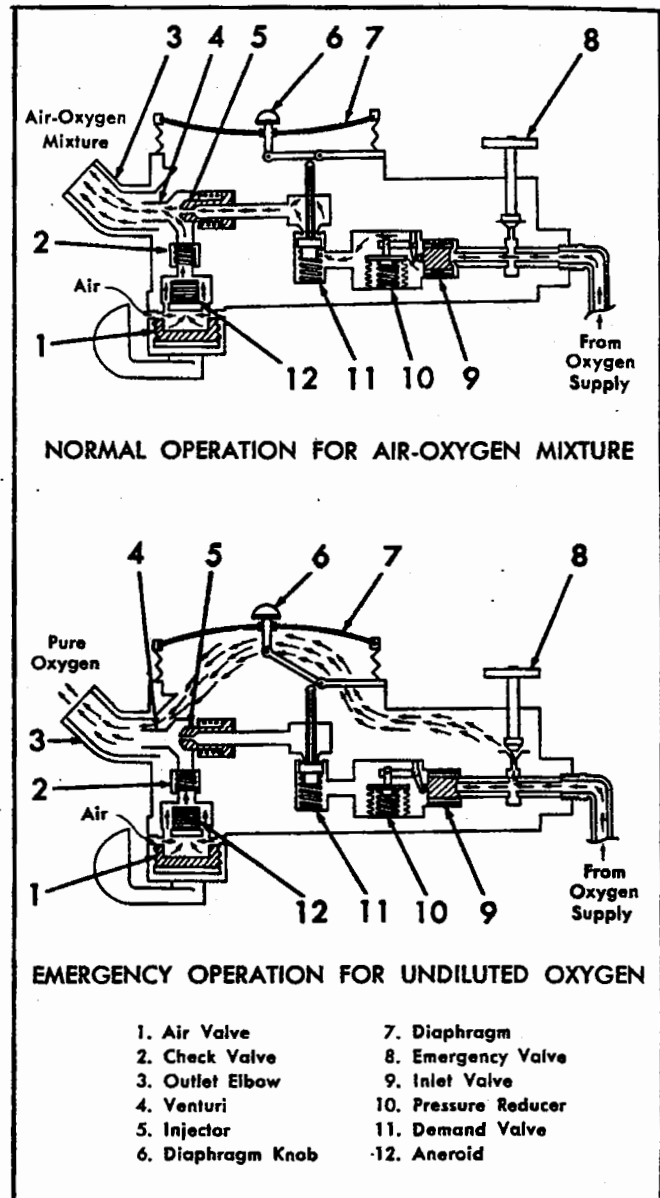

Figure 4-133. Oxygen Regulator—Schematic.
4-1633. DESCRIPTION. (See figure 4-133.) The diluter-demand oxygen regulator, located on the forward end of the left hand control panel, is a Pioneer No. 2858-A1 high pressure type regulator. The emergency valve, the air valve, and the diaphragm are the principal parts of the oxygen regulator. The regulator incorporates neither a pressure gage nor a flow indicator; these instruments are auxiliary equipment in the demand system and are mounted separately from the regulator. The diluter-demand regulator is a suction-operated valve which releases oxygen upon inhalation. It mixes varying quantities of air and oxygen, the ratio depending upon the altitude. Above 30,000 feet, pure oxygen is released. The emergency valve knob, attached to the regulator, protrudes through the horizontal face of the left hand control panel and controls the emergency flow of oxygen through the regulator. Above the horizontal face of the left hand control panel and attached to the regulator, is the oxygen air valve lever, which can be turned to the "ON" or "OFF" position. From the side of the regulator, tubes extend to the oxygen flow indicator and pressure gage which are mounted separately from the regulator with adapter plates on an inclined bracket. This bracket is attached to bulkhead 186 and to the left hand
4-1634. FUNCTION. (See figure 4-133.) The diluter-demand oxygen regulator automatically supplies an adequate air-oxygen mixture (or oxygen only) in a ratio depending upon altitude whenever the oxygen cylinder valve is open. For normal, automatic operation, the emergency valve (8) is turned "OFF" and the air valve (1) is turned "ON." Inhalation causes the diaphragm (7) to deflate. The down motion of the diaphragm, conveyed by a lever, opens the demand valve (11). Oxygen from the supply cylinder flows through the inlet valve (9) to the pressure reducer (10), where the pressure is decreased to operating value. From the pressure reducer,